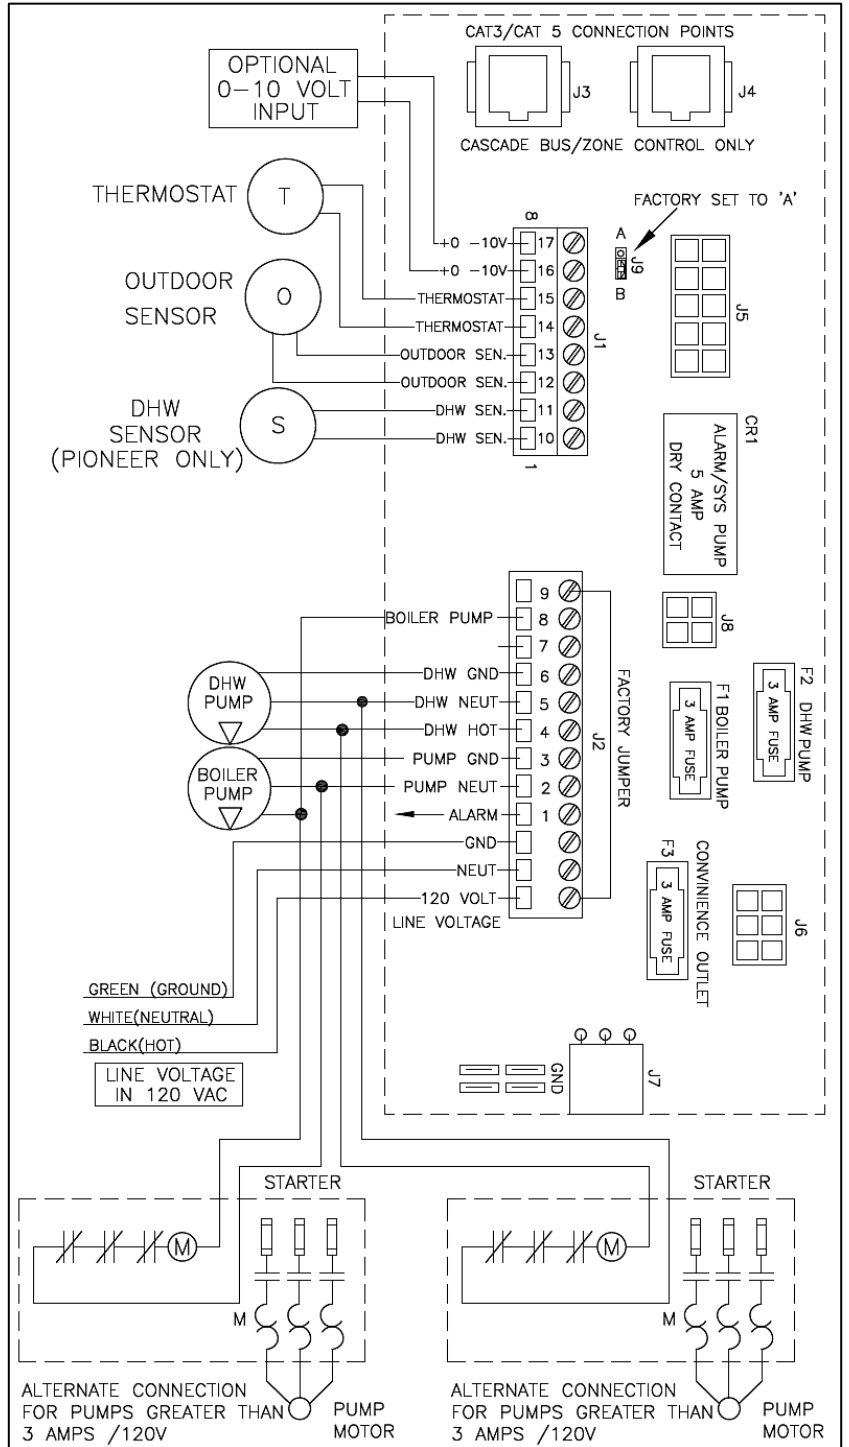

Figure 24 –Control Detail LP-325-P1
2. Connect the central heating pump to the terminals marked 8 (HOT), 2 (NEUT), 3 (GND) in Figure 24. The connections shown are suitable for a maximum continuous pump draw of 5 amps at 120 volts. If the pump requires more current or voltage other than 120 volts, an external motor starter or contactor will be required.